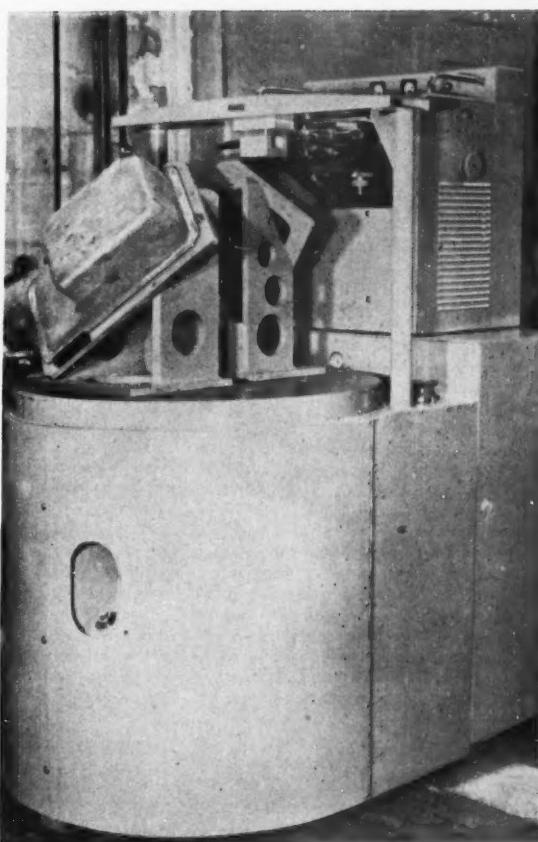

Fig. 10. Delapena equipment with semi-automatic hand-loaded brazing fixture for engine sumps
In the case under review, however, a steel boss was brazed to the pressing using a silver solder with a 630-640 deg C melting range, and a tensile strength of 28.5 tons/in2. The time necessary to produce a satisfactory joint on a production basis was 20 sec. A fairly elaborate brazing fixture was utilized. It is illustrated in Fig. 10 from which it will be seen that the fixture consists of a two station turntable which is provided with locating blocks for the sumps.
If reference is made to Fig. 9, some indication can be gained of the method by which the induction process is applied to applications of this type. Internal work coils are used which enable two solder joints to be made simultaneously. In Fig. 10 these two joints are marked (XX) and (YY) respectively. The handling gear is so designed that it is possible for the operator to reverse the complete assembly in order to complete all joints and in the example under review the complete brazing time for the 8 joints was 60 sec with a heater having an output of 6 kW.